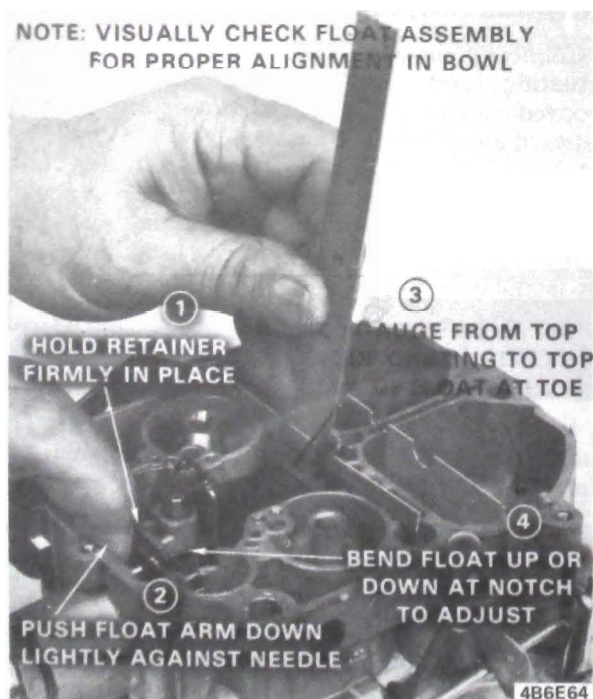

Figure 6E-64 Float Level Adjustment
2. Install two long air horn screws, five short screws, and two countersunk screws in primary venturi area. All screws must be tightened evenly and securely. See Figure 6E-56 for proper tightening sequence.